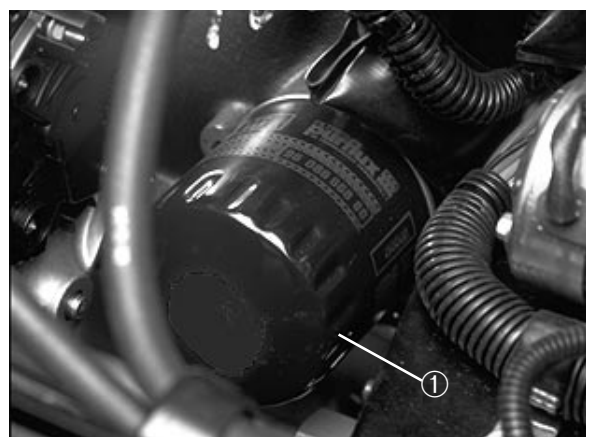

Figure 41
1. Remove the drain plug (Fig. 41) and let the oil flow into the drain pan. When the oil stops, install the drain plug and the new plug seal, Part No. 74-7850.
2. Remove the oil filter (Fig. 41). Apply a light coat of clean oil to the new filter seal before screwing it on. **DO NOT OVER-TIGHTEN.**